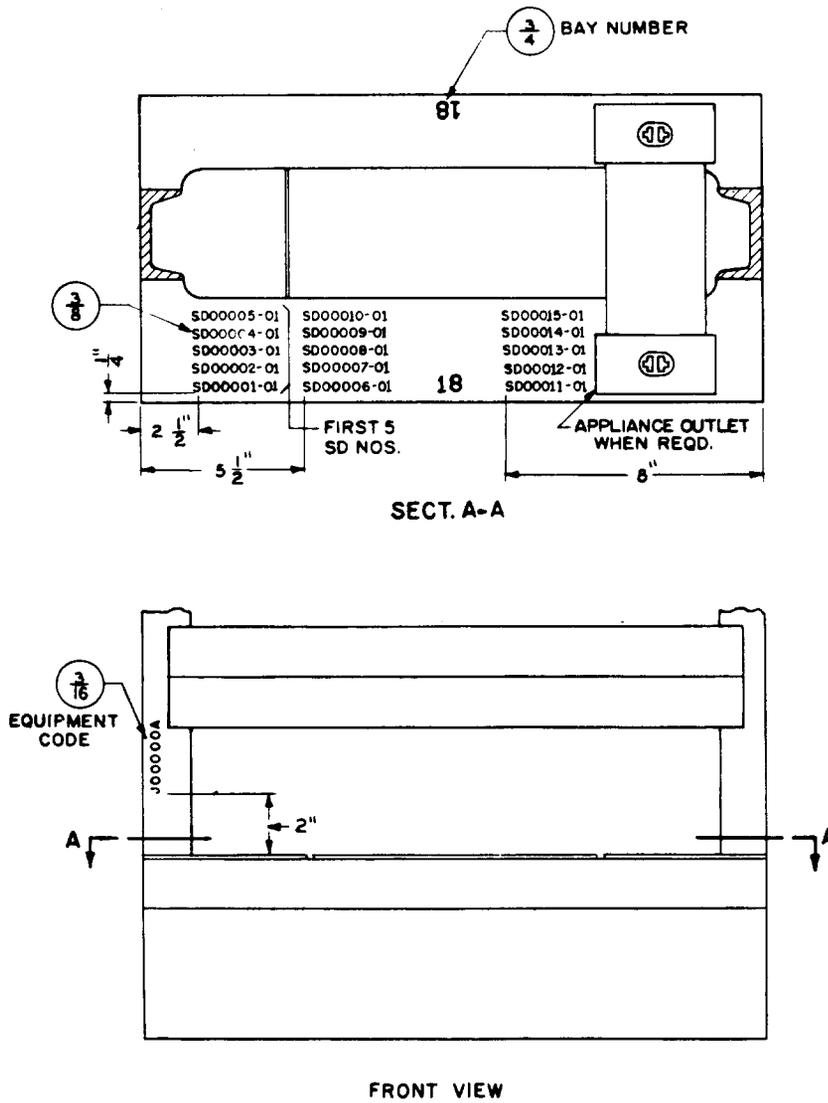

Fig. 36 – SD Drawing Number and Equipment Code Designation for Frames With Channel-type Uprights and Sheet Metal Base — Single Bay or Left Bay of 2-bay Frame
2.53 SD Drawing Numbers: Stamp the SD drawing number for the bay or frame per Fig. 36. The base and suffix number shall be stamped (example, SD-36459-01). Figure numbers shall not be stamped. On relay rack bays equipped with relay equipment units, SD numbers are not required.
2.54 Equipment Code Designations: Stamp as shown in Fig. 36.